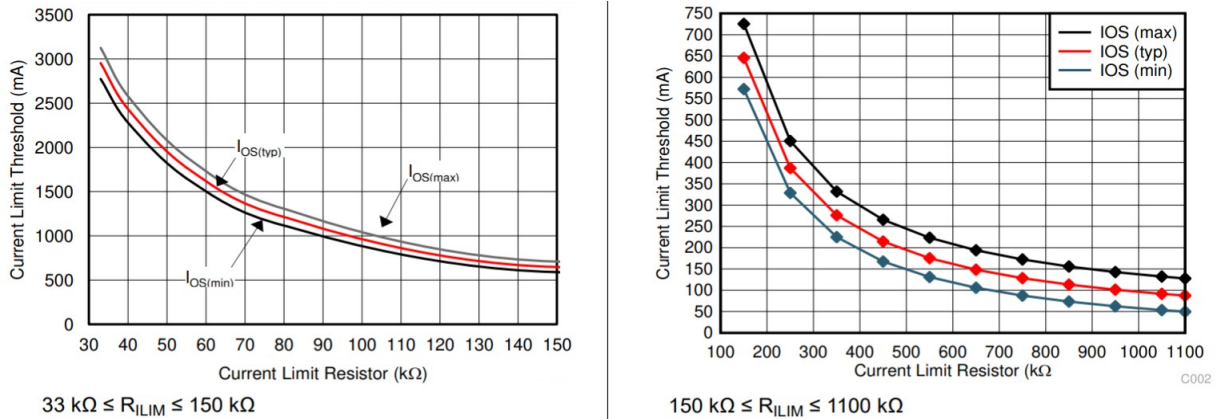

Figure 3: Current-limit threshold vs $R_{ILM} = RV1 + 33k\Omega$ (source: TPS25200 datasheet)
Figure 3 shows a graphical method to determine the resistance, the procedure is described below:
2. Find the corresponding value of R_{ILM} in figure 3.